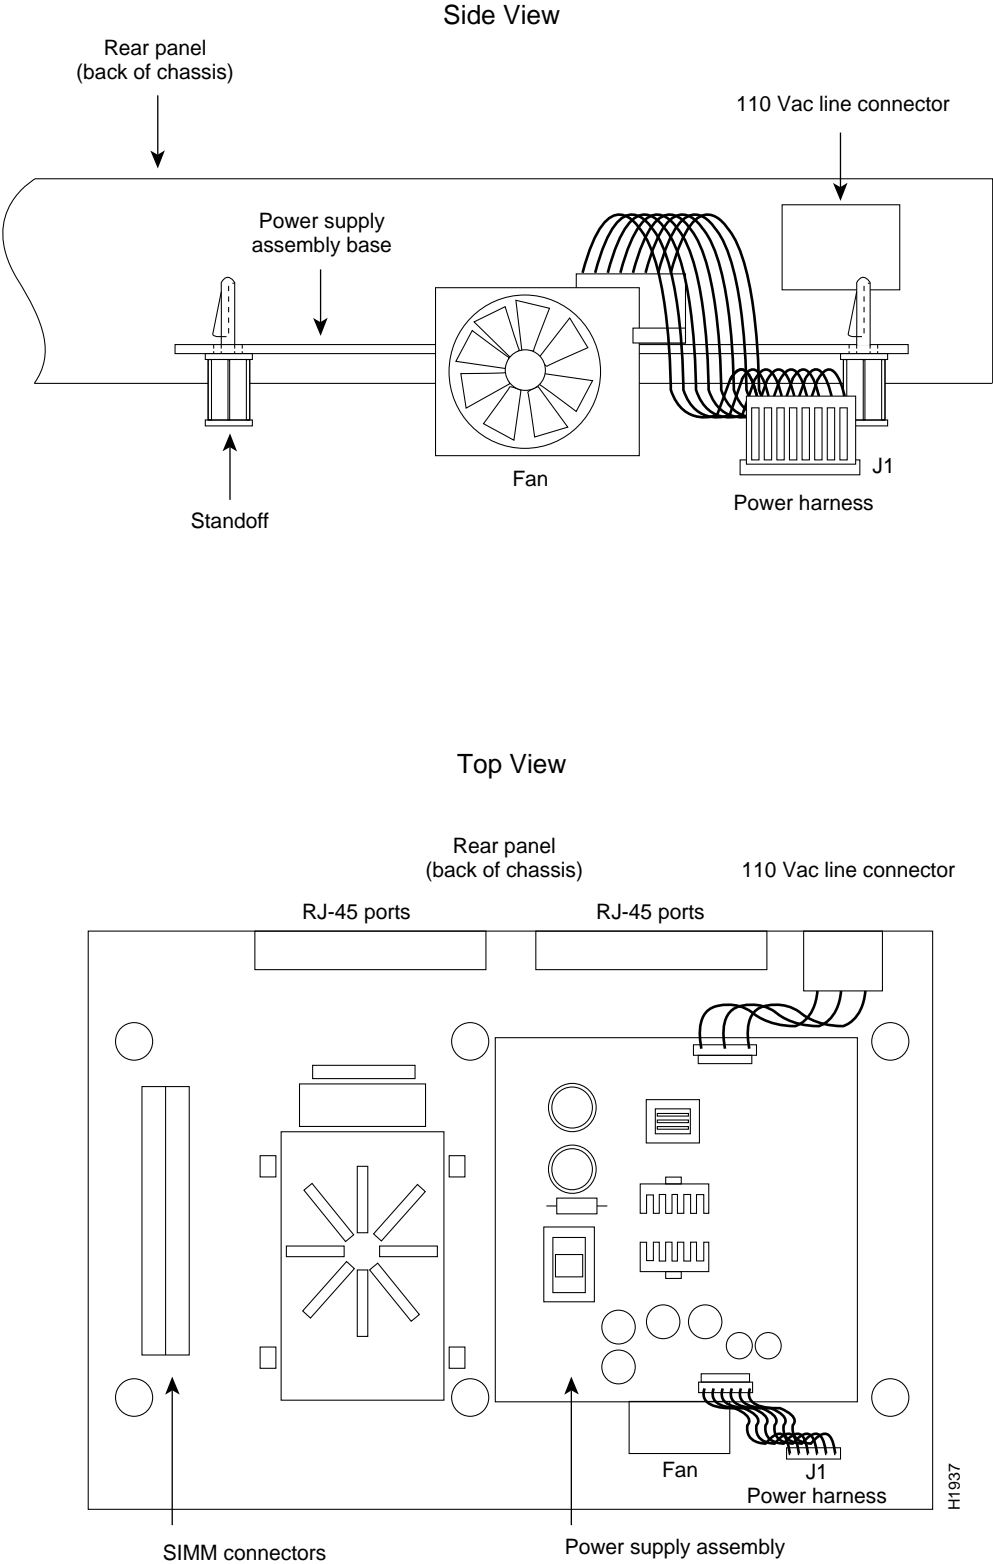

Figure 8 500-CS Power Supply
You must remove the power supply assembly to access the EPROMs. The power supply is mounted on a raised platform about two inches above the main circuit card, as shown in Figure 8. Perform the following steps to remove the power supply assembly.
- Step 2** Turn the chassis so that the front is closest to you, as shown in Figure 8.
- Step 4** On the system card, locate power connector J1 (shown in Figure 8). Disconnect the wiring harness connector from J1.